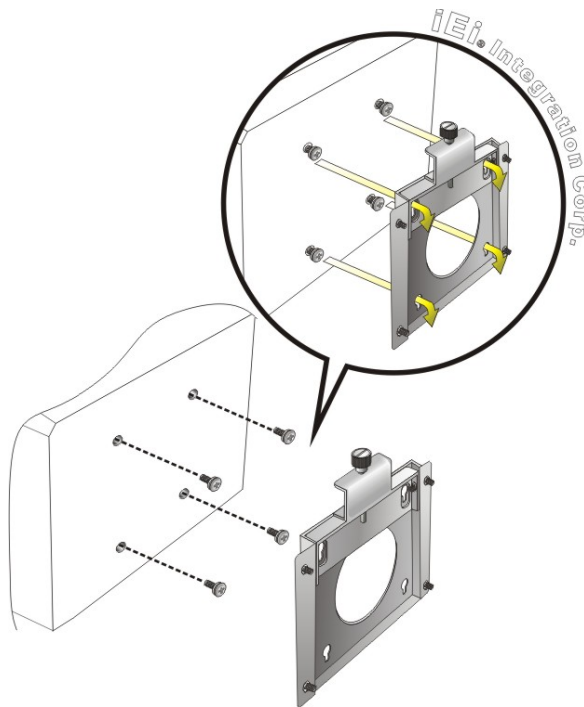

Figure 3-20: Chassis Support Screws
Step 6: Insert the four mounting screws provided in the wall mount kit into the four screw holes on the rear panel of the medical panel PC and tighten until the screw shank is secured against the rear panel (**Figure 3-20**).
Step 8: Carefully insert the screws through the holes and gently pull the panel PC downwards until the panel PC rests securely in the slotted holes (**Figure 3-20**).